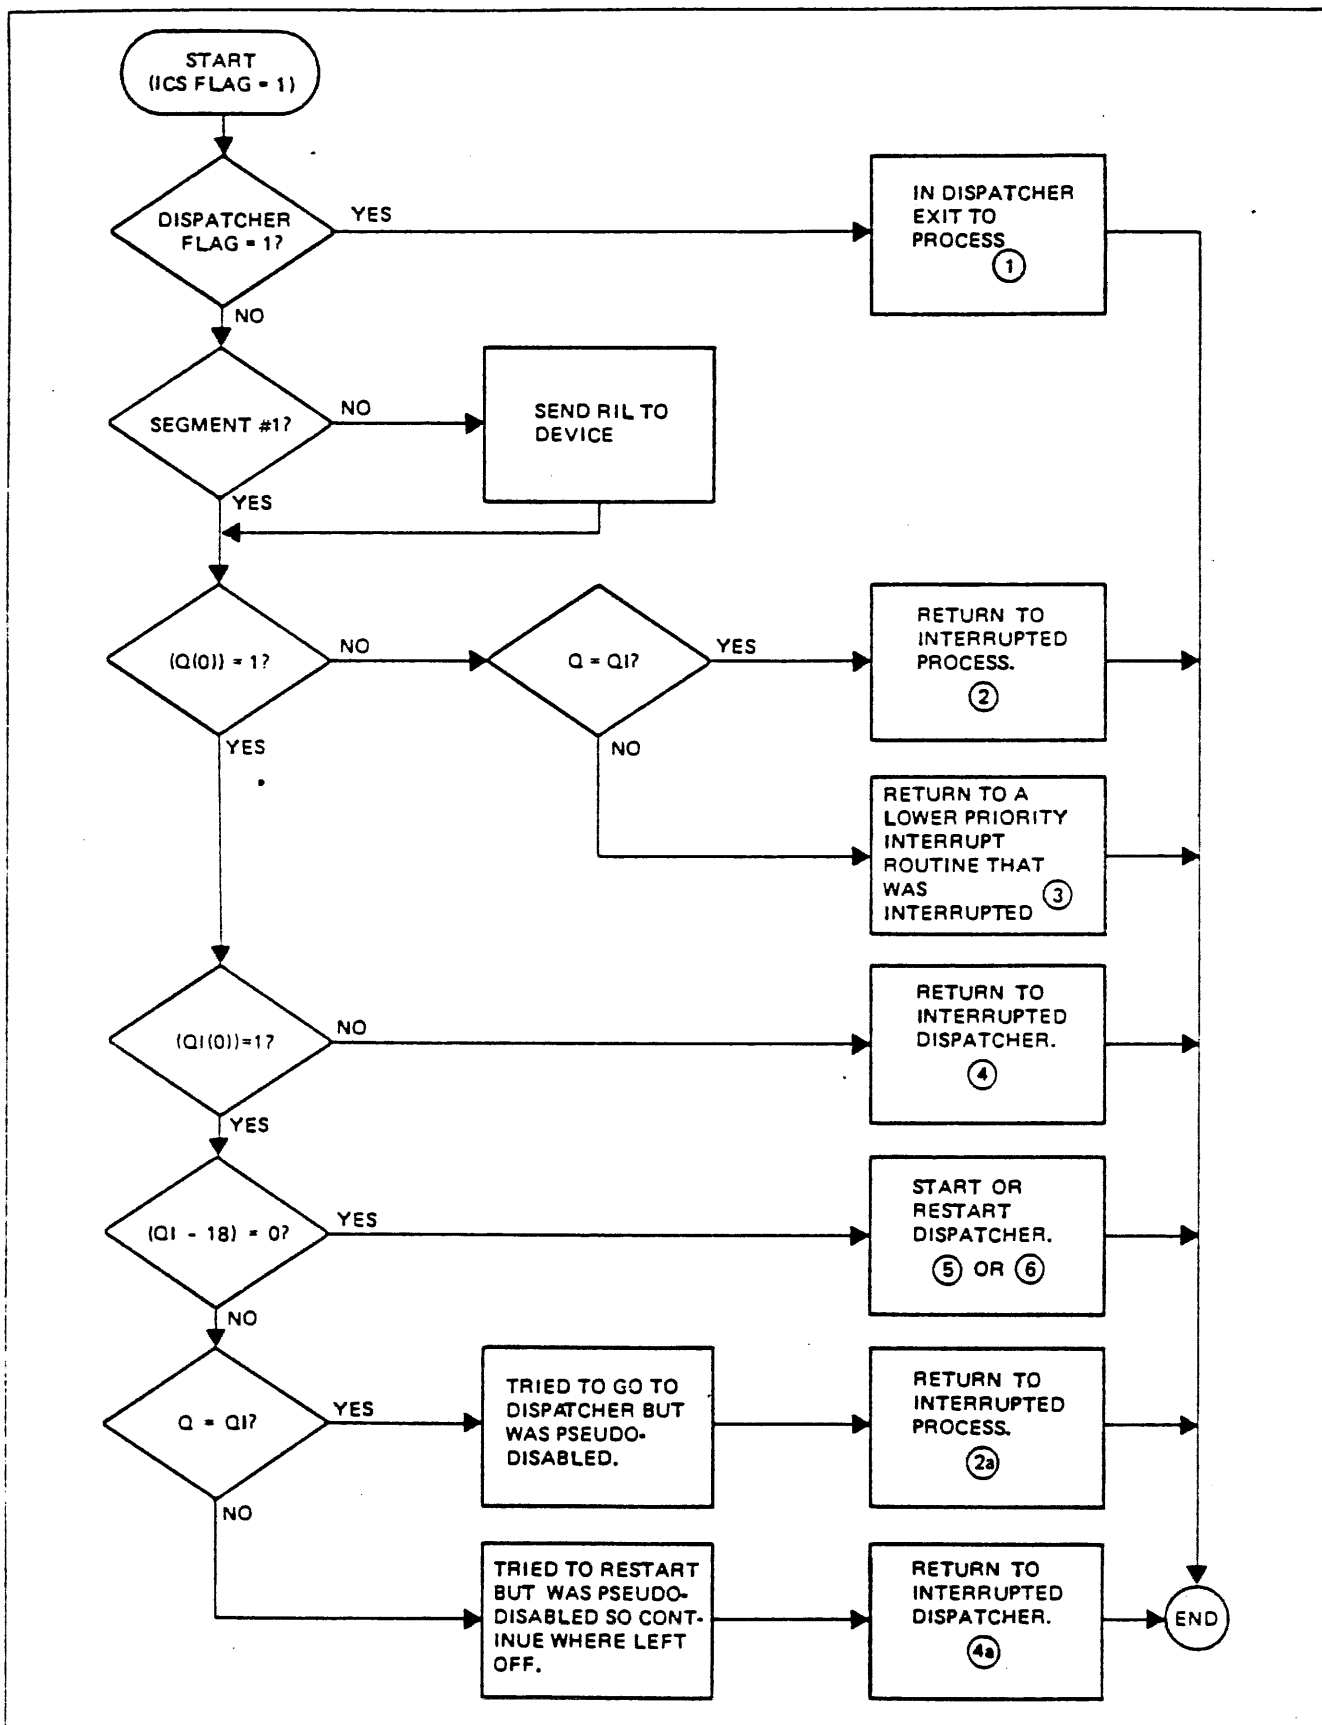

Figure 2-14. IXIT Instruction Flowchart
Figure 2-14 is a simplified flowchart of IXIT operation. IXIT operates in one of two manners. The first, (1) in the figure, is by the dispatcher to transfer to a process being launched; the second, (2) through (6), is to exit from ICS interrupt service routines.